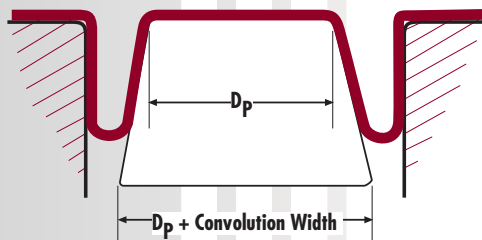

Fig. 40: Tapering the Piston
**Piston Configuration** – The Rolling Diaphragm must elongate and compress circumferentially as it rolls back and forth from piston to cylinder wall. Tapering the piston (Fig. 40) will contribute to improved cycle life by reducing the amount of circumferential change required of the diaphragm as it rolls back and forth. This tapered configuration relieves the condition which can cause axial wrinkling of the diaphragm. This taper of the bottom of the piston skirt should be such that the convolution at the bottom of the skirt is half the standard width (diameter at bottom of piston skirt is  $D_p$  plus one convolution width). It is important that the piston skirt length be to specification.